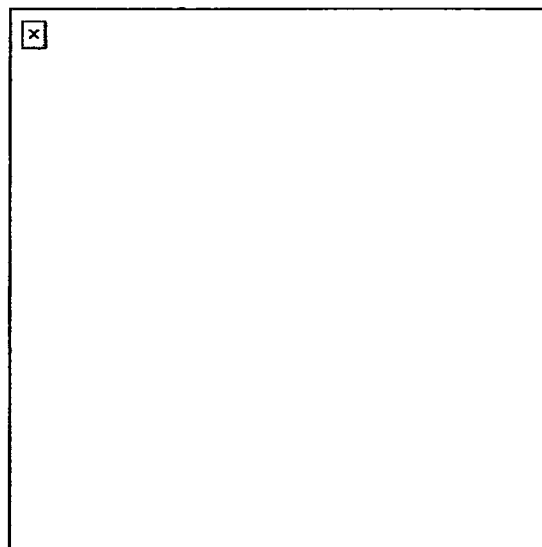

Figure 9. Low machine gun position.
- b. Machine guns should be emplaced as low as possible, using loopholes behind shrubbery or under doorjambs. Basement windows can also be used. By placing the machine gun at a lower level, grazing fire is obtained (Figure 9).